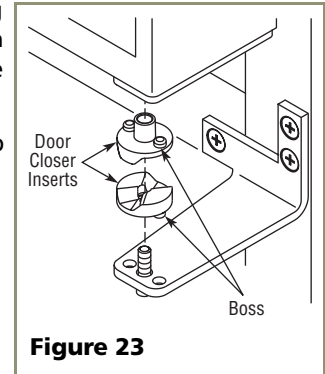

Figure 23
7. Reinstall the closers, lining up the bosses with holes in hinge and hinge plate (see **Figure 23**).